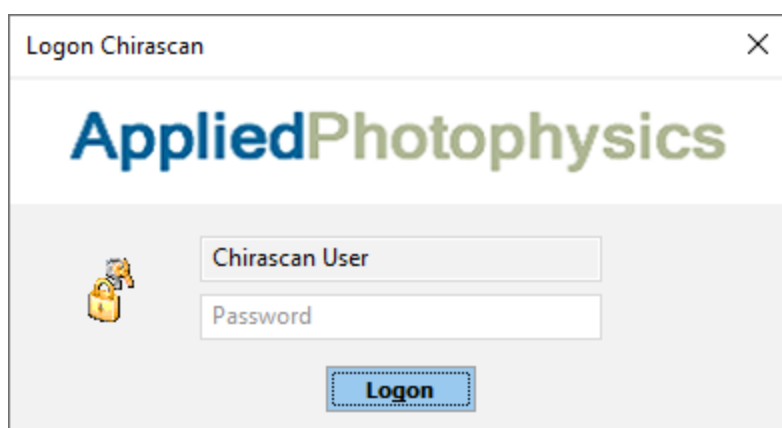

Figure 117: Logon window for a Chirascan program
- Start any of the programs of the Chirascan software (Figure 117), including Chirascan Control[66], Chirascan Viewer[97] and Chirascan Autosampler[131].